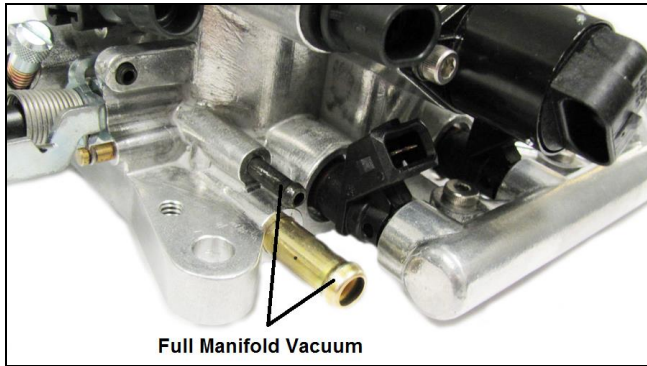

Figure 2
1. Connect the vacuum lines that were disconnected in section 7.0. **Figures 2 & 3** show the function of the ports in the TERMINATOR™ throttle body.